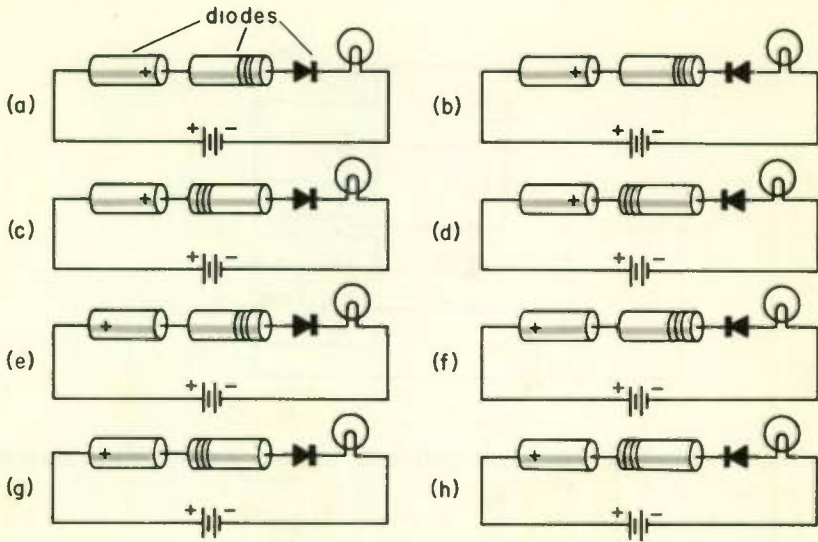

Fig. 16
22. In which circuit of Fig. 16 is the lamp burning?